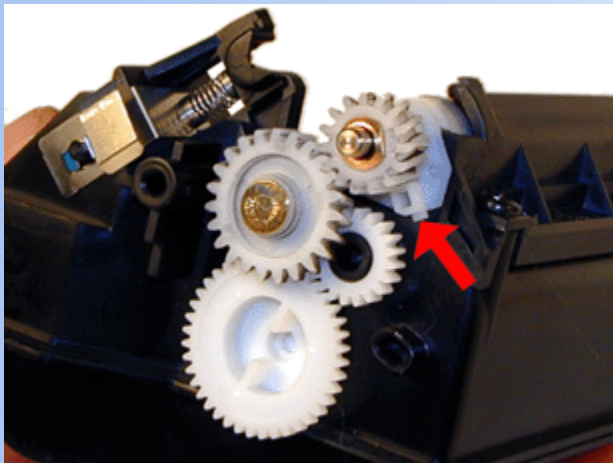

FIGURE 17
- 18. Make sure that the magnetic roller white bushing snaps back into place and that the gear meshes properly. See Figure 17